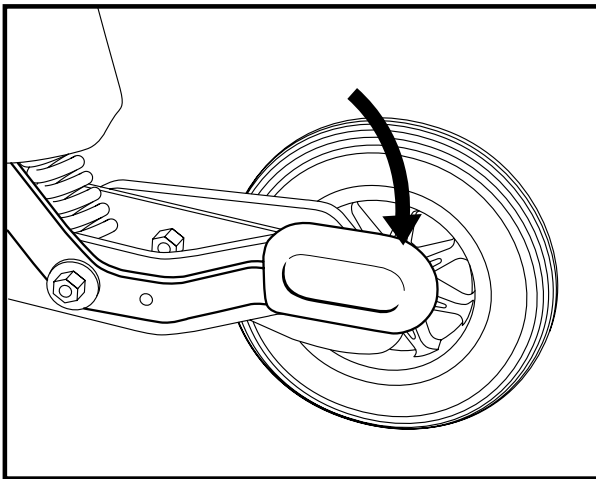

Figure 9. Freewheel Mode (left side shown)
1. Pull up both manual freewheel levers for freewheel mode (drive motor disengaged). See figure 9.